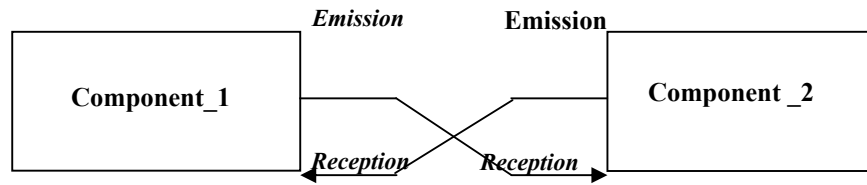

Figure 71 : Cross field for Inputs/Outputs
11. Click in the **Crossfield** column to define a flow crossing (Figure 71)